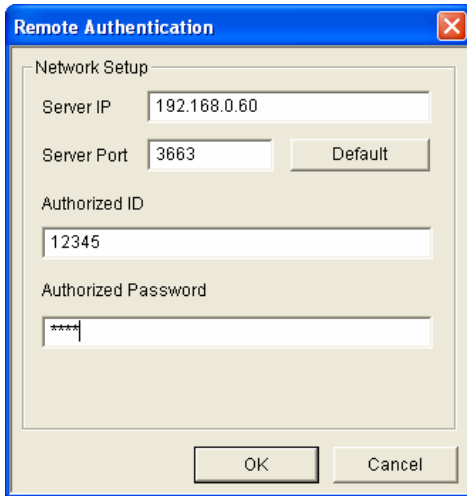

Figure 11-24
3. Enter the IP address and port of the Authentication Server. Type the **Authorized ID** and **Authorized Password** of the Authentication Server (Figure 11-24).